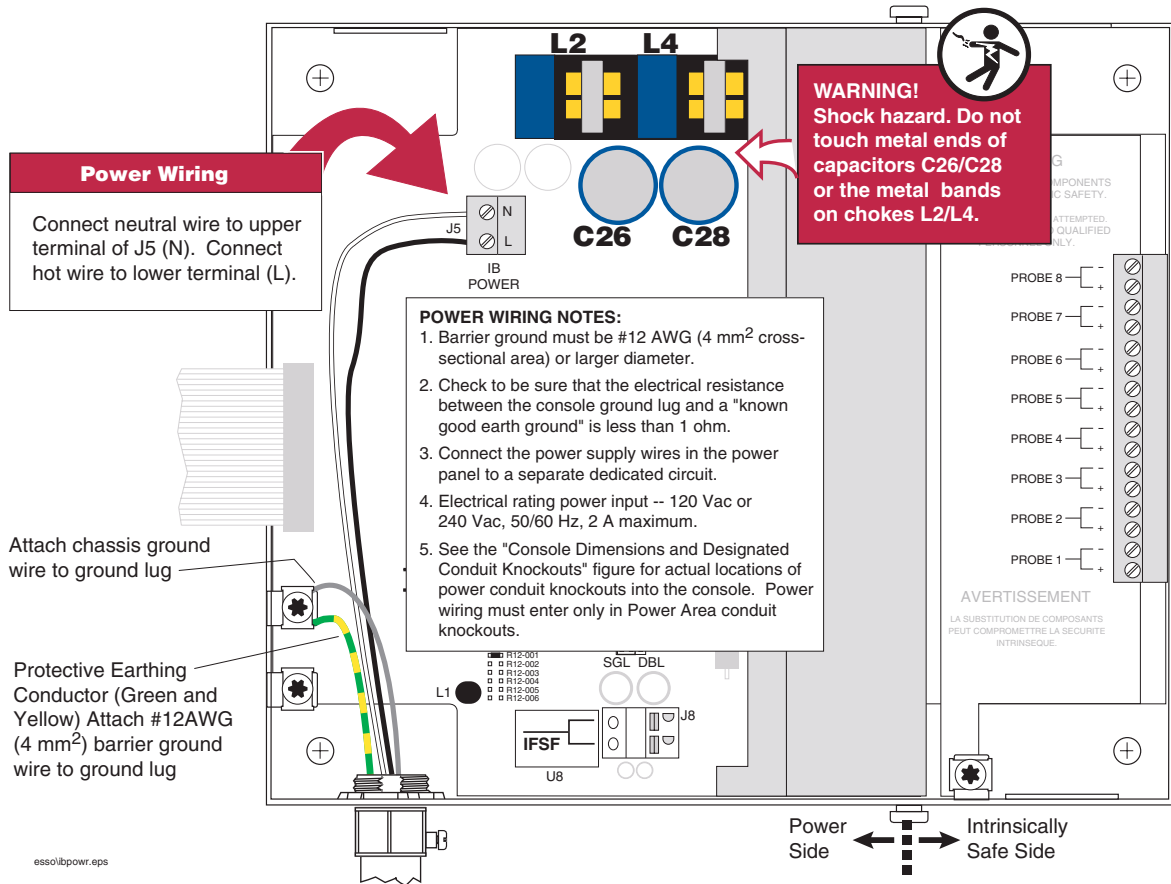

Figure 28. Wiring AC Power to the TLS-IB
2. Open the door of the TLS-IB and connect the four power/ground wires as shown in [Figure 28]. Do not connect the power wires to breaker panel at this time.